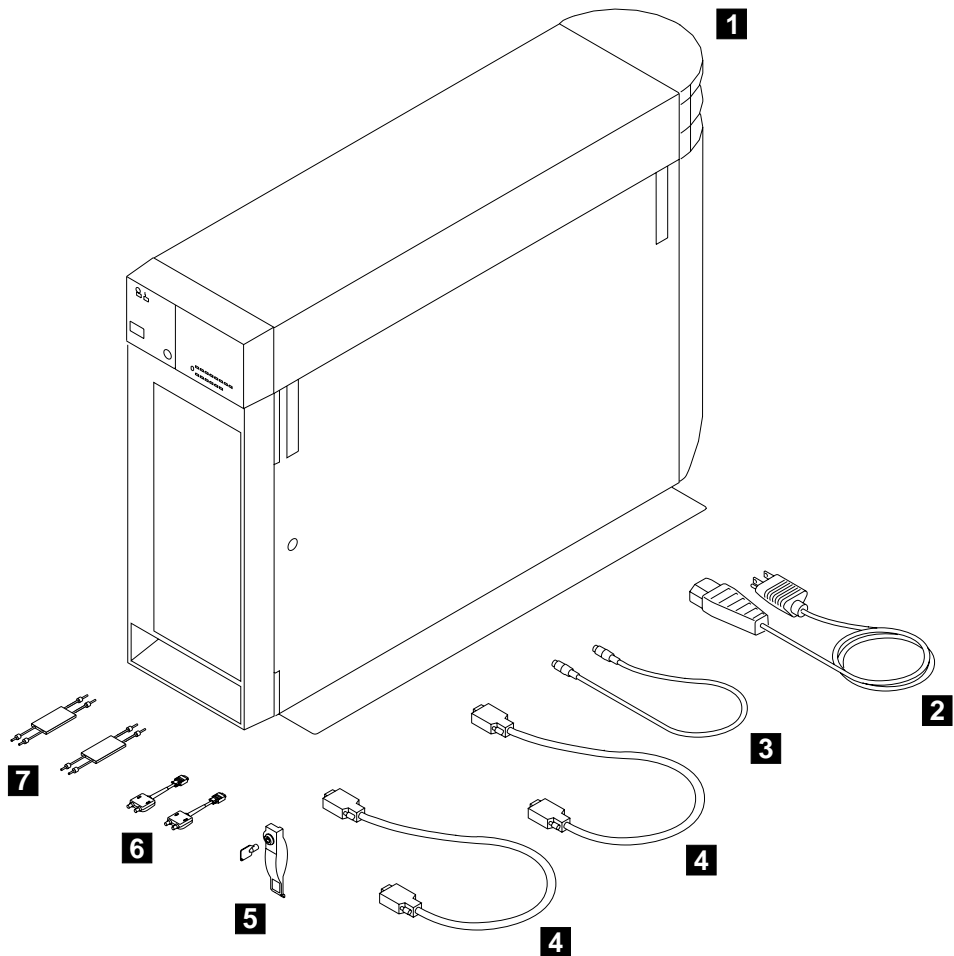

Figure 3. Items for the 7133 Model T40
1. A detailed list of items is shipped with the 7133 Model T40. Ensure that you have all the items that are shown on the list. Refer to Figure 3 to identify the items.